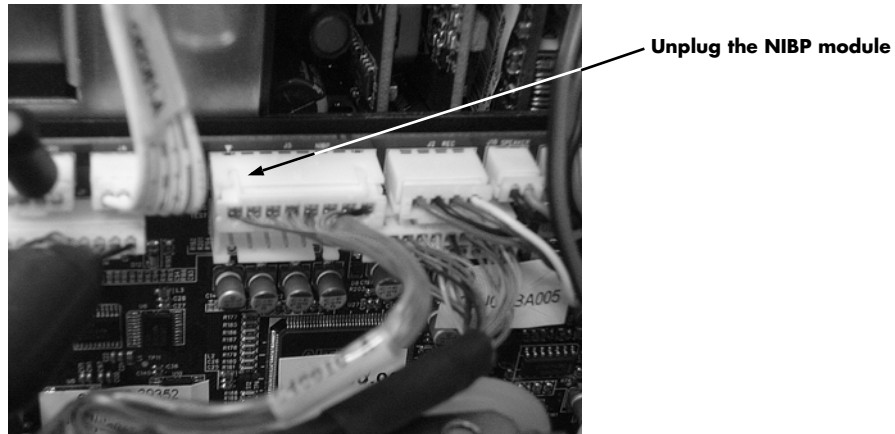

FIGURE 4-16 Unplug the NIBP module.
1. Unplug the NIBP module from the CPU Board (as shown in Figure 4-16).